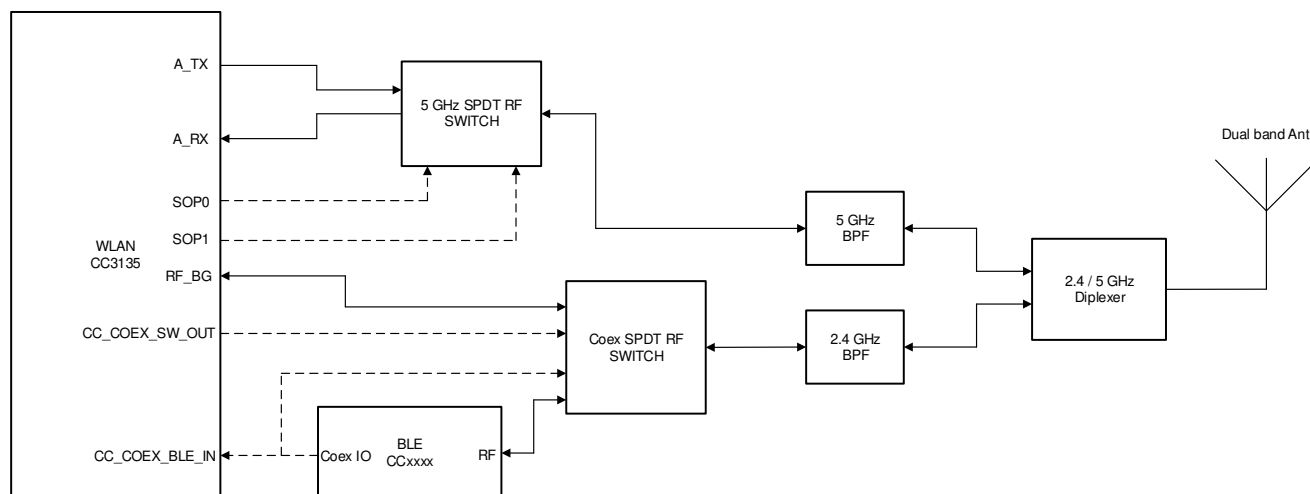

图 9-2. Single Antenna Coexistence Solution with 5GHz Wi-Fi®
- 5GHz Wi-Fi band (see 图 9-2)
图 9-2 shows the single antenna implementation of a complete Bluetooth® low energy and WLAN coexistence network with the WLAN operating on either a 2.4- or a 5GHz band. The SOP lines control the 5GHz switch. The Coex switch is controlled by a GPIO signal from the BLE device and a GPIO signal from the CC3135 device.